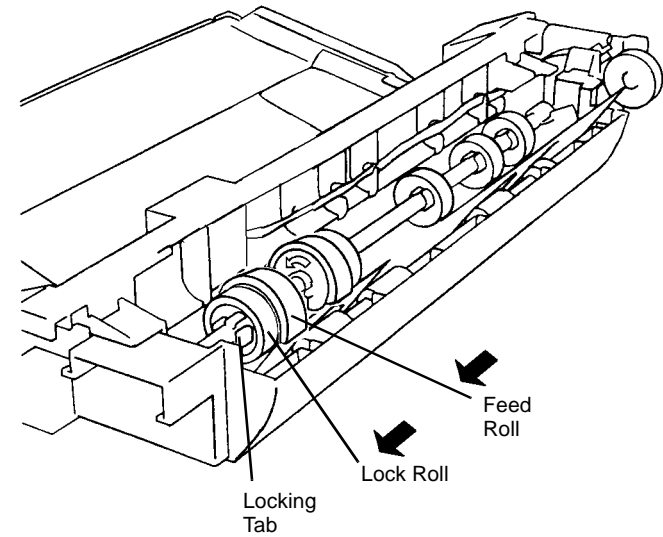

Figure 2 Removing Feed Roll
7. Remove the Feed Roll (Figure 2).